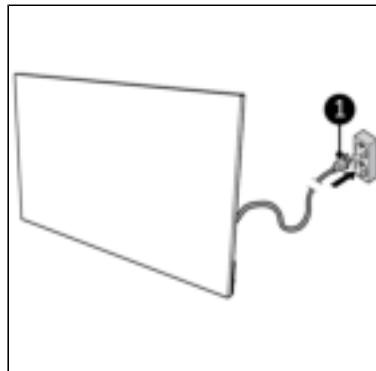

Figure 20.
2. Place the power plug (Figure 20, pos. 1) into an earthed wall socket that is easily accessible. Use an earthed wall socket with a minimum power of 800 Watt.